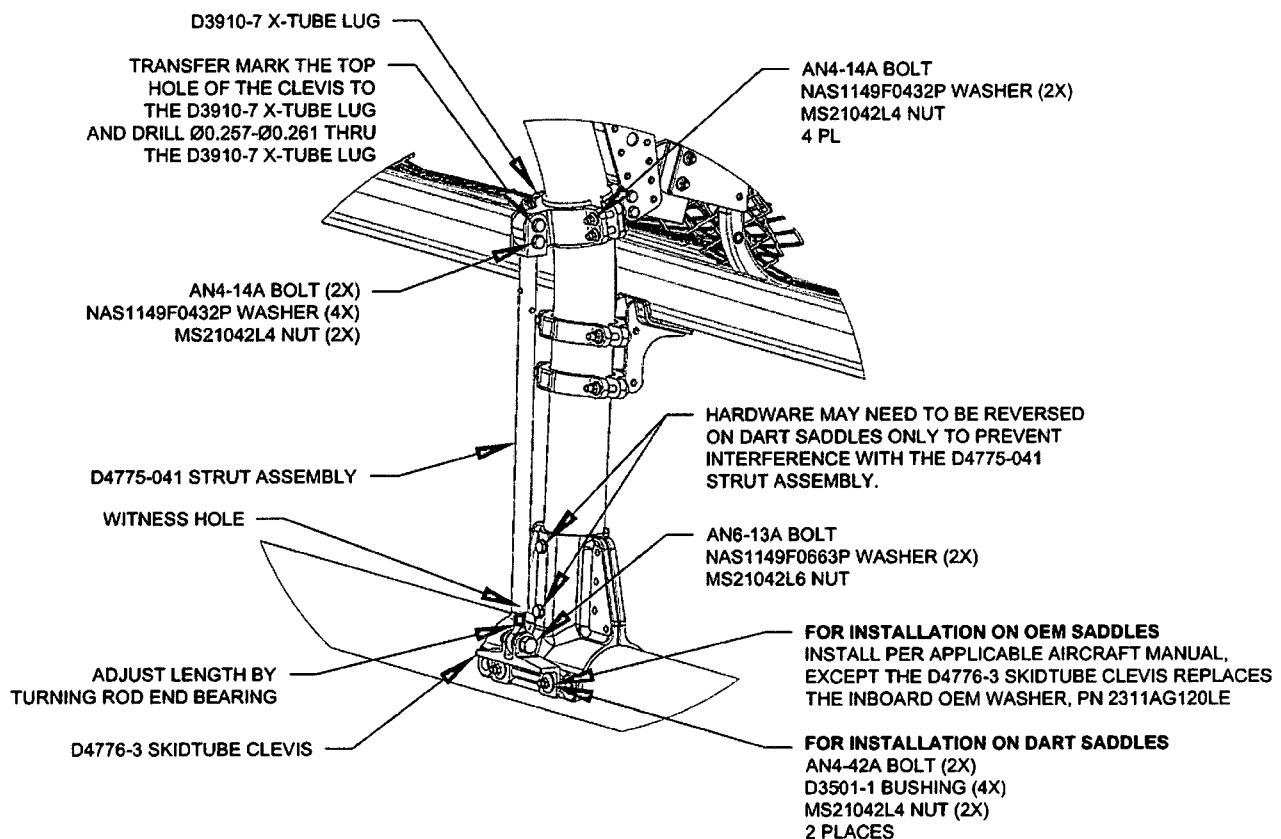

FIGURE 1: INSTALLATION OF D4775-041 FWD STRUT
- 3.1 Substitute the Forward Lower D3910-5 X-Tube Lug with the D3910-7 X-Tube Lug as shown in Figure 1.
- 3.2 Install the forward D4775-041 Strut Assembly. Transfer mark from the upper hole on the clevis of the D4775-041 Strut Assembly to the D3910-7 X-tube Lug and drill thru the lug $\varnothing 0.257$ - $\varnothing 0.261$ as shown in Figure 1. Touch up chemical conversion coating per MIL-DTL-5541. Check the witness holes located at the bottom end of the D4775-041 Strut Assemblies to ensure that the thread from the rod end extends past the witness hole.